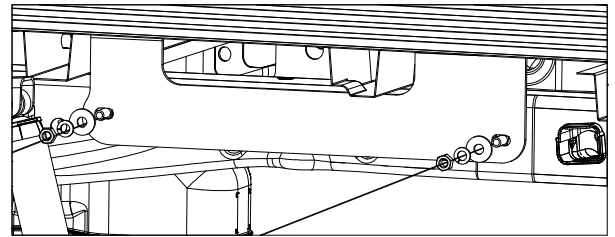

Figure C4: View looking into driver side wheel well.
3. **Install the driver side plate.** Locate the driver side plate, two 1/2" flat washers, two 1/2" lock washers, and two 1/2" finish nuts. Thread the fish wires through the holes in the side plate. Guide the side plate into position. Use the fish wires to pull the carriage bolts into position and secure with the lock washers, flat washers, and nuts, see Figure C4. Hand tighten each nut.